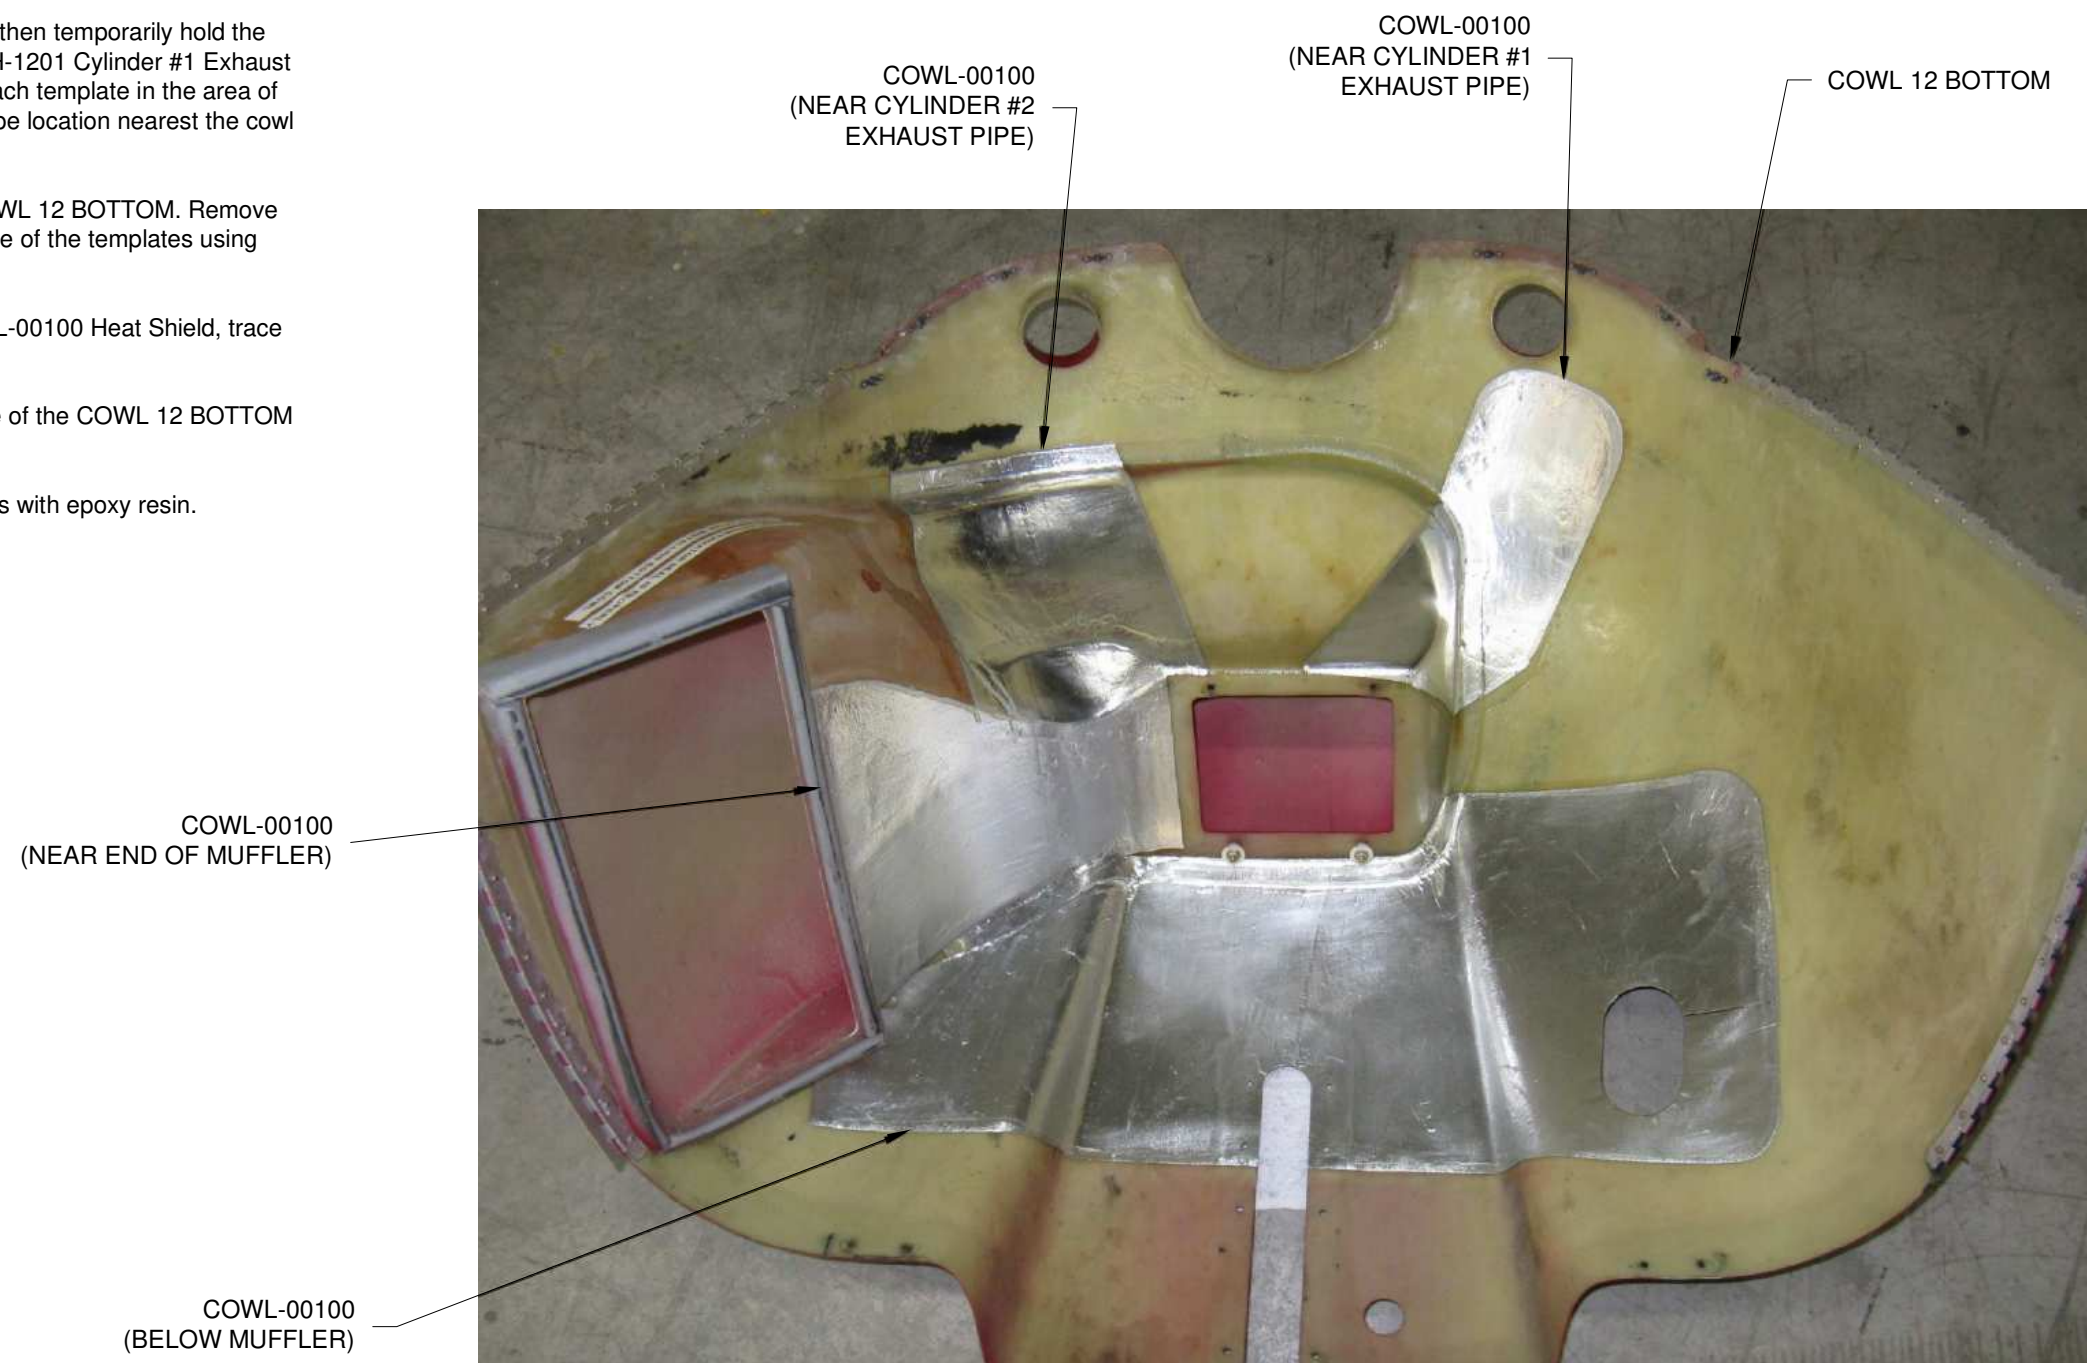

FIGURE 1: COWL HEAT SHIELD
Step 3: Lay the templates created in Figure 1 over the COWL-00100 Heat Shield, trace and cut out parts.
Step 4: Add the COWL-00100 Heat Shield parts to the inside of the COWL 12 BOTTOM as shown in Figure 1.